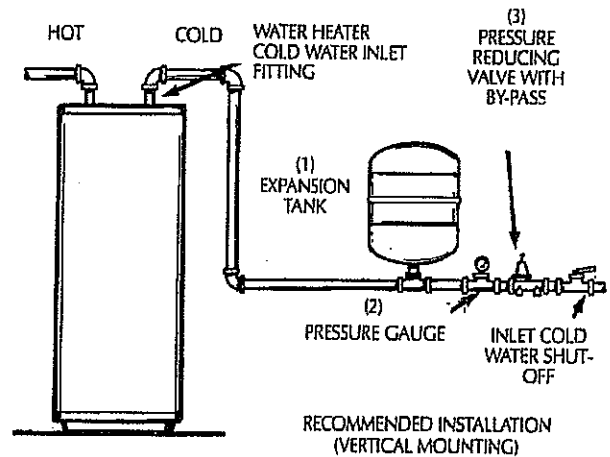
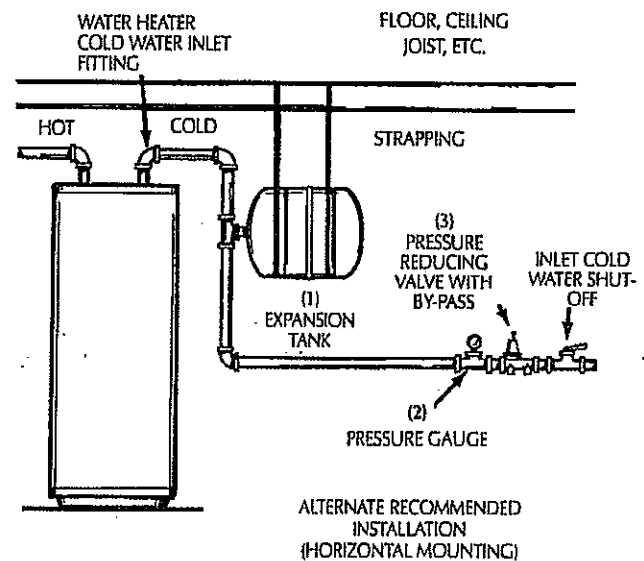

Figure 1
Figure 2
2. The items which must be installed in sequence in the cold water line are (1) the EXPANSION TANK must be installed at least 18 inches away from the cold water inlet fitting on the water heater, (2) the PRESSURE GAUGE, and (3) the PRESSURE REDUCING VALVE, if required. See Figure 1.
3. The expansion tank is designed to be supported by the system piping in the vertical position. If however, the expansion tank must be installed horizontally as shown in Figure 2, it must be supported by adequate strapping (not supplied).
Figures 1 and 2 on page 5 show the correct valves and fittings that you will need to install your expansion tank. A threaded (1/2") water connection is supplied on the tank bottom.
2. The expansion tank is designed to be supported by the system piping in the vertical position (See Figure 1). If however, the expansion tank must be installed horizontally as shown in Figure 2, it must be supported by adequate strapping (not supplied).
3. Install expansion tank, pressure gauge and pressure reducing valve, if required, as shown in Figure 1 or 2.